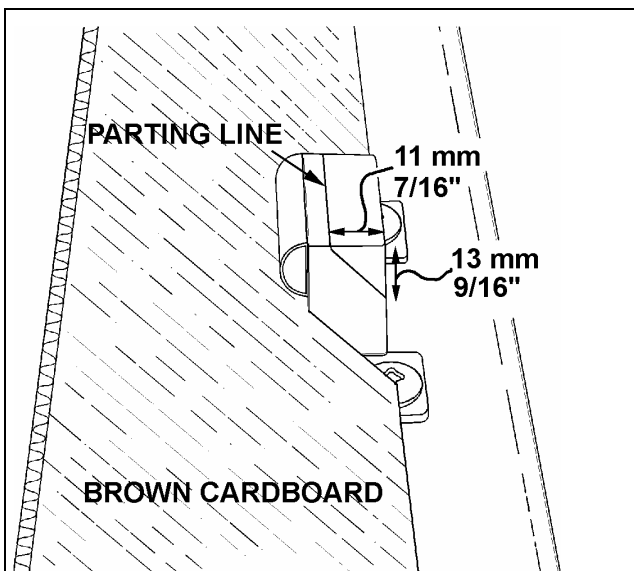

FIGURE 3 : PARTING LINE
3. Mark out the parting line on the stop (figure 3).